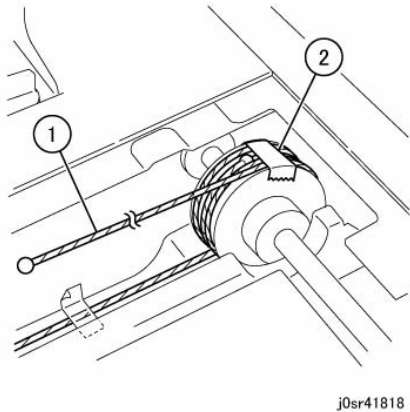

Figure 6 Wind the Carriage Cable around the Pulley 1.5 rounds
3. Wind the Carriage Cable at the ball end around the Pulley for 1.5 rounds. (Figure 6)